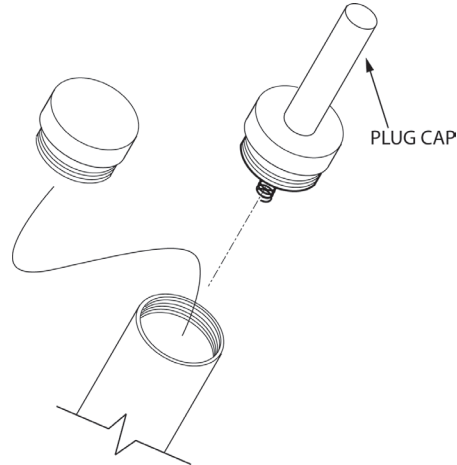

Fig. 29
3. Remove the battery cap from the Subsite[®] beacon. Verify fresh batteries have been installed and thread the plug cap in, tighten up firmly for full thread engagement (see Fig. 29).